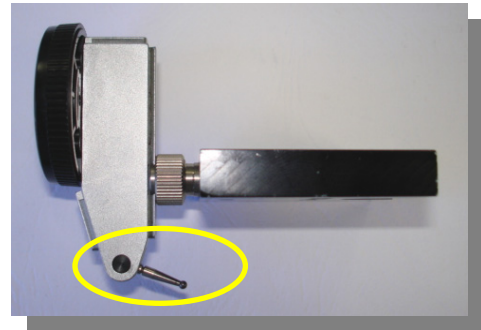

Figure 16
- 5) Position the dial indicator tip at an angle, just below the adapter body (Figure 16).